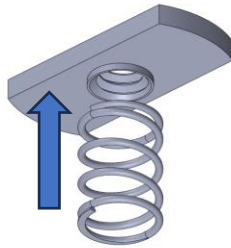

Figure 9: Combining the Spring with the Track Nut
6. Install spring onto track nut and insert into one of the crossbars as shown in Figure 9 & Figure 10.